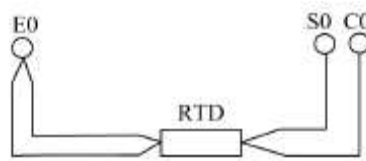

Figure 3-2-20 4-Wire RTD connection
- This module can measure RTD signals of 4 channels, Wiring can be 2-wire, 3-wire, or 4-wire. In the case of 2-wire connection, please short connect S and C, bridge connect RTD between E and S. For 3-wire connection, connect one end of RTD to E, and the other end to S and C. See Figure 3-2-20 for 4-wire connection.